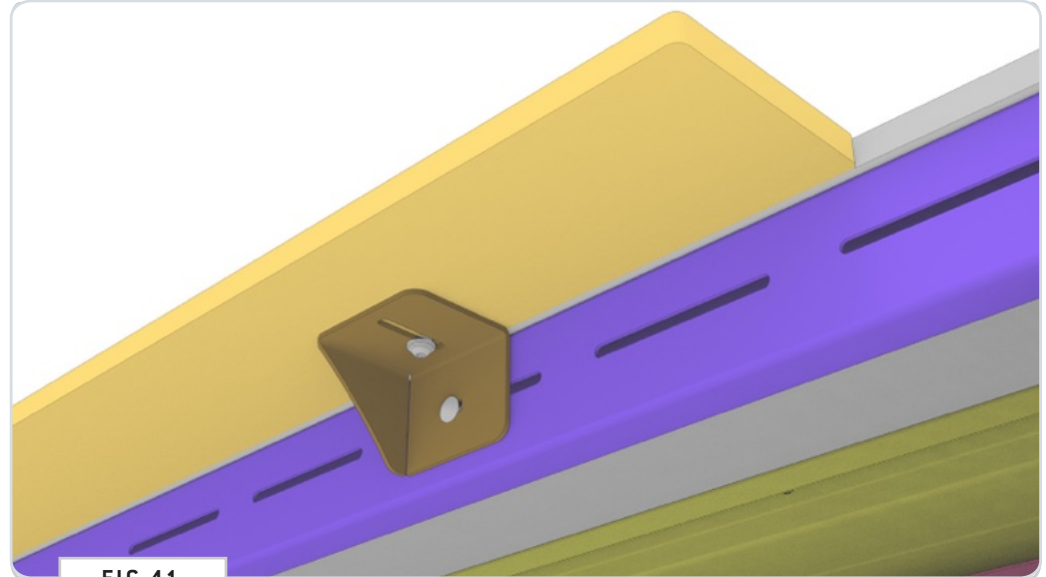
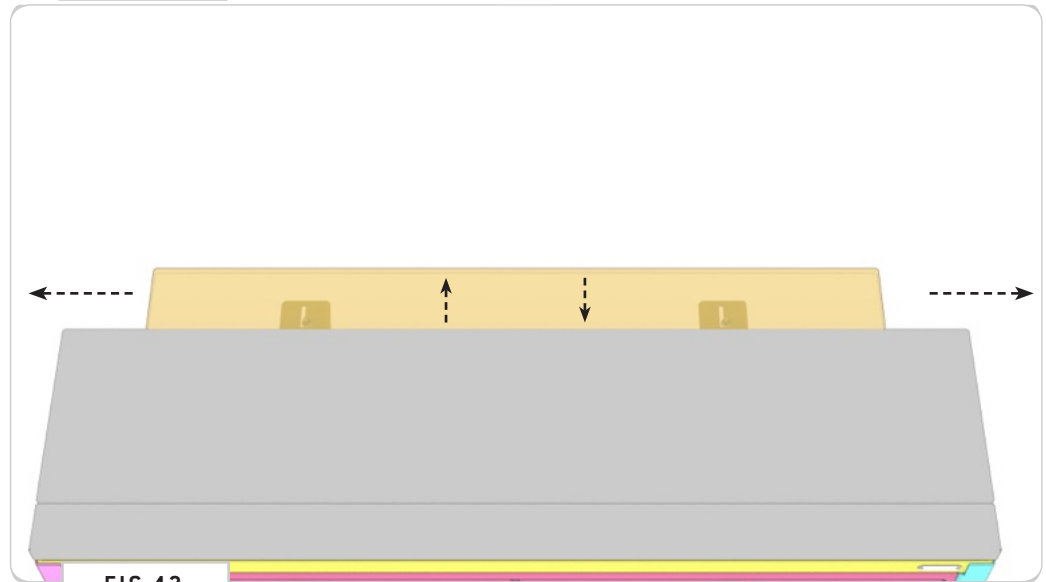

FIG 41
FIG 42
6.5 Fit and Install Bed Extension: Loosely attach the assembled **Bed Extension** in the orientation as shown to the **Rear Stretcher** of the **Cabinet** using (2) 1/4-20 x 0.75 Square Neck Carriage Bolts, Flat Washers and Nylon Locknuts (FIG 41). Adjust left, right, up and down until you're satisfied with the fitments and finish by securing all fasteners (FIG 42).